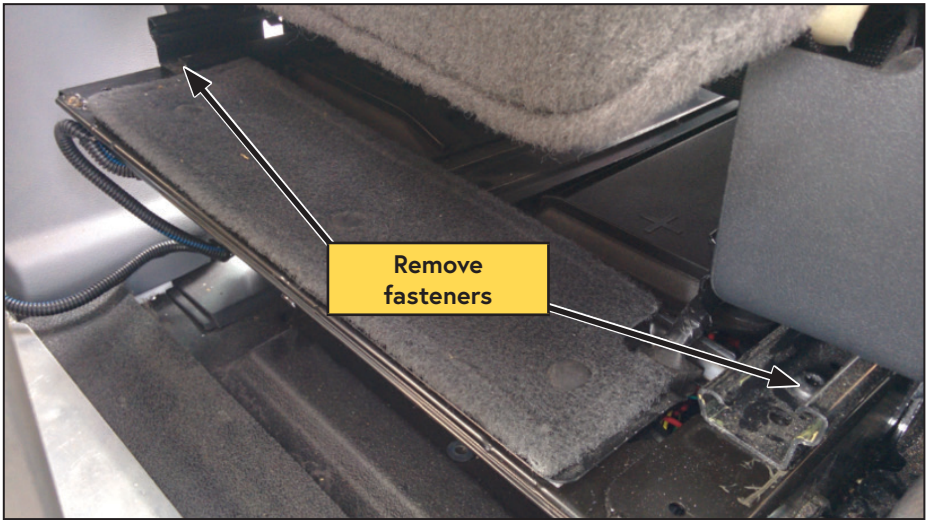

Figure 2 — Driver seat (rear)
- Move the driver seat completely forward and remove the (x2) rear fasteners (Figure 2).